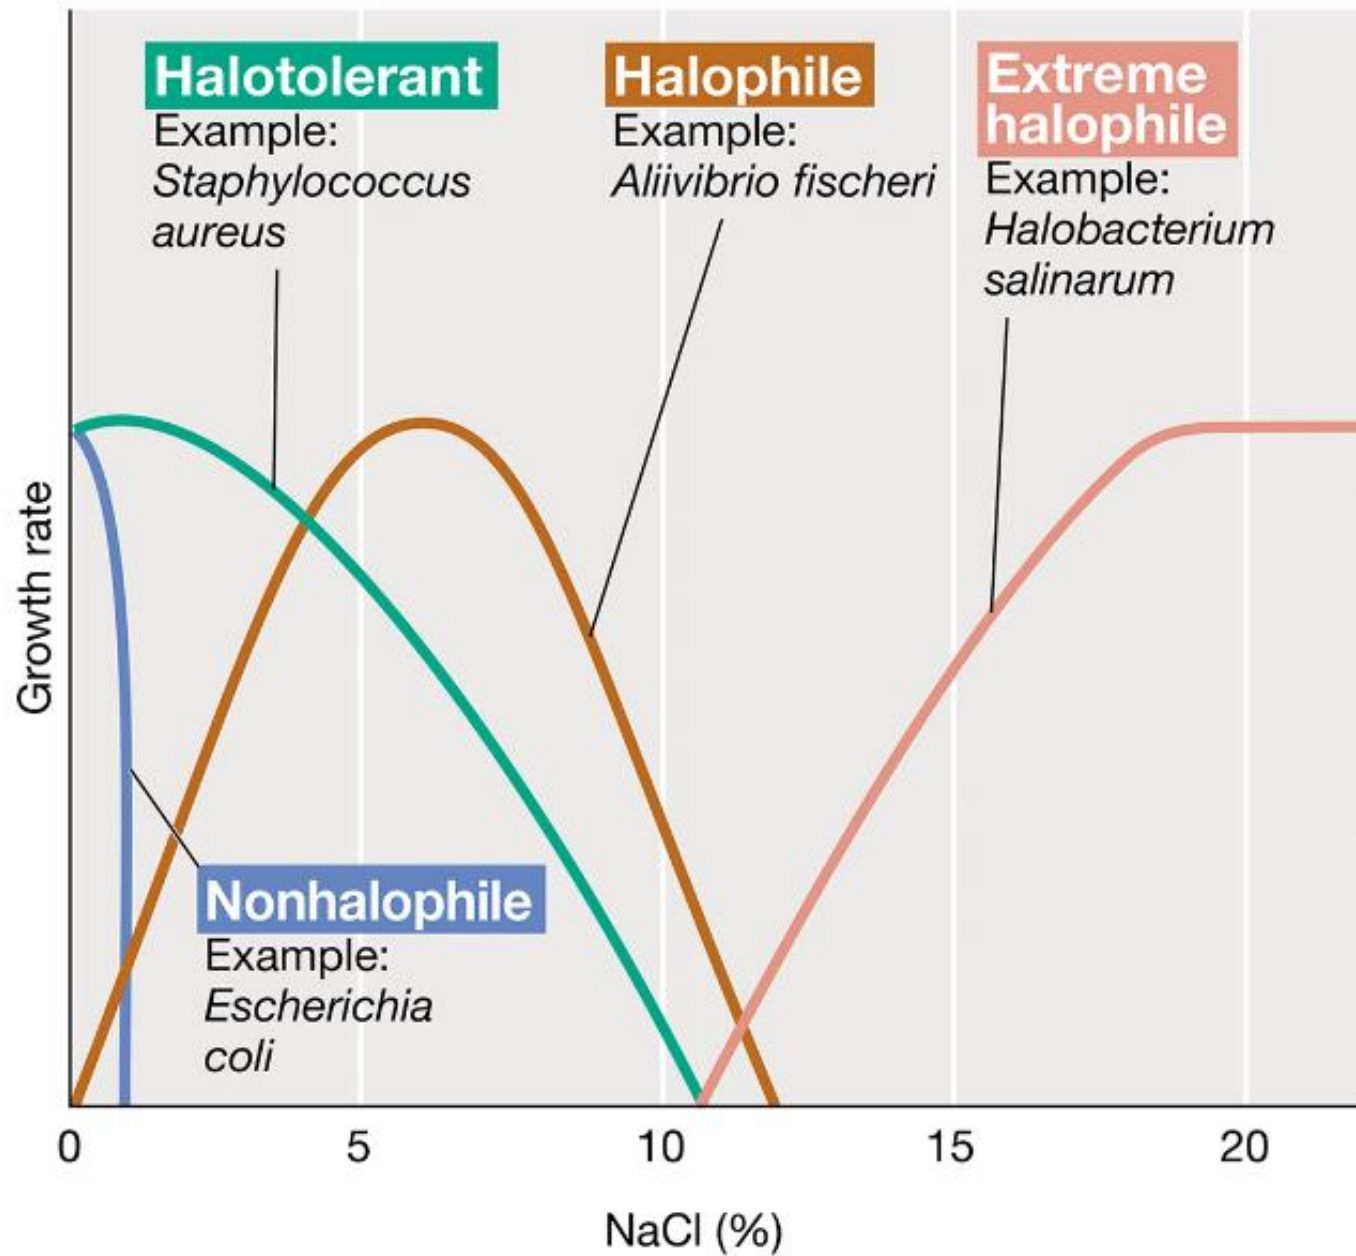

Figure 5.24
- *Halophiles*: organisms that grow best at $a_w = 0.98$ (seawater); have a specific requirement for NaCl (Figure 5.24)